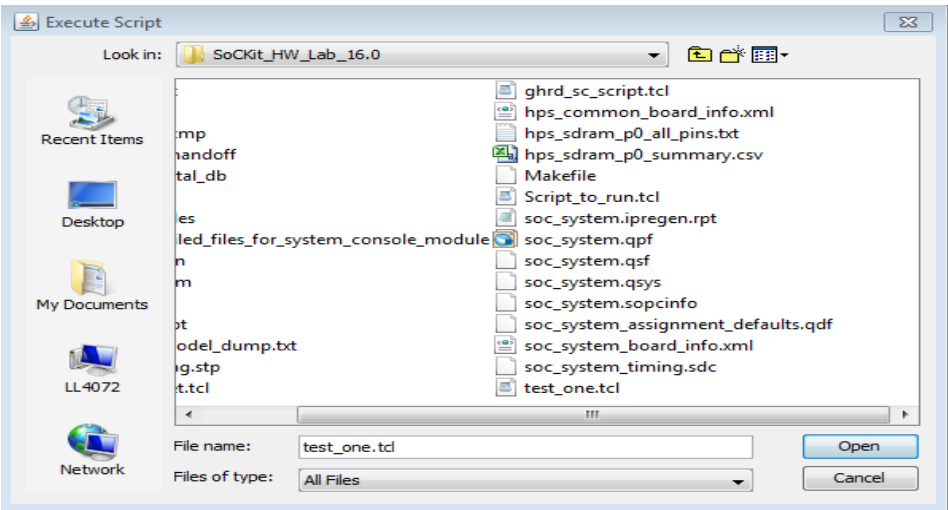

Figure 6.2.3
- The next pop-up window that appears should look like the one shown in Figure 6.2.3